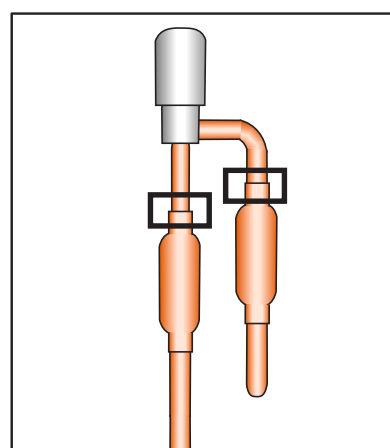

Fig18.Removing the brazing part
- (c) Remove the brazing part. (□ mark, Fig.18)
- (e) Braze the new electronic expansion valve. (□ mark, Fig.18)